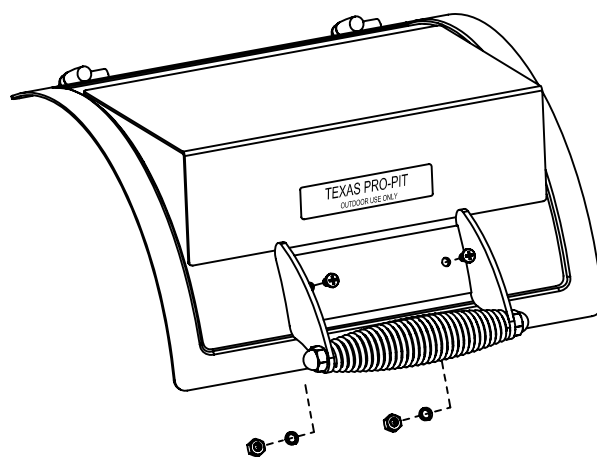

fig. 19a
- Fit firebox door handle (34) to firebox door (38) using 2-M6x15 mm bolts at the top and 2-M6 nuts below fig. 19a.